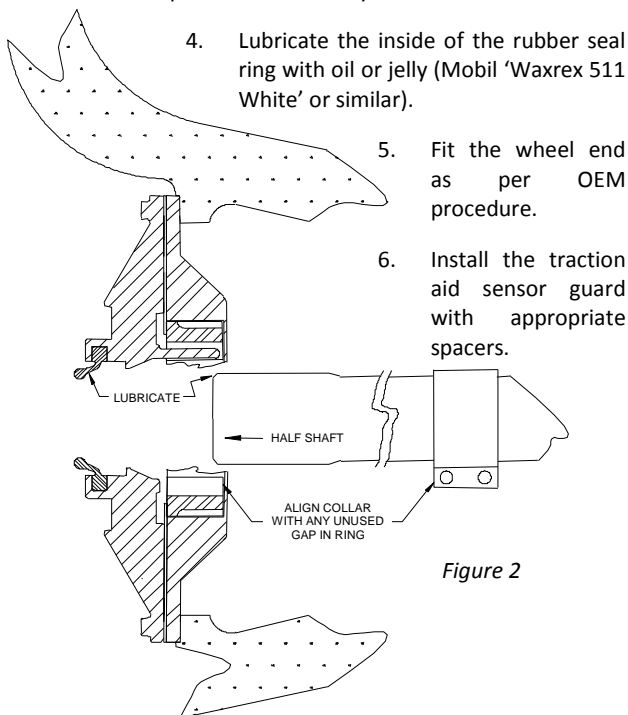

Figure 2
10. Insert half shaft ensuring that the drive collar clamp is aligned with a notch in the traction aid ring (8W8744). Note that when an isolation seal is fitted there are two less useable notches in the traction aid ring (see Figure 2).